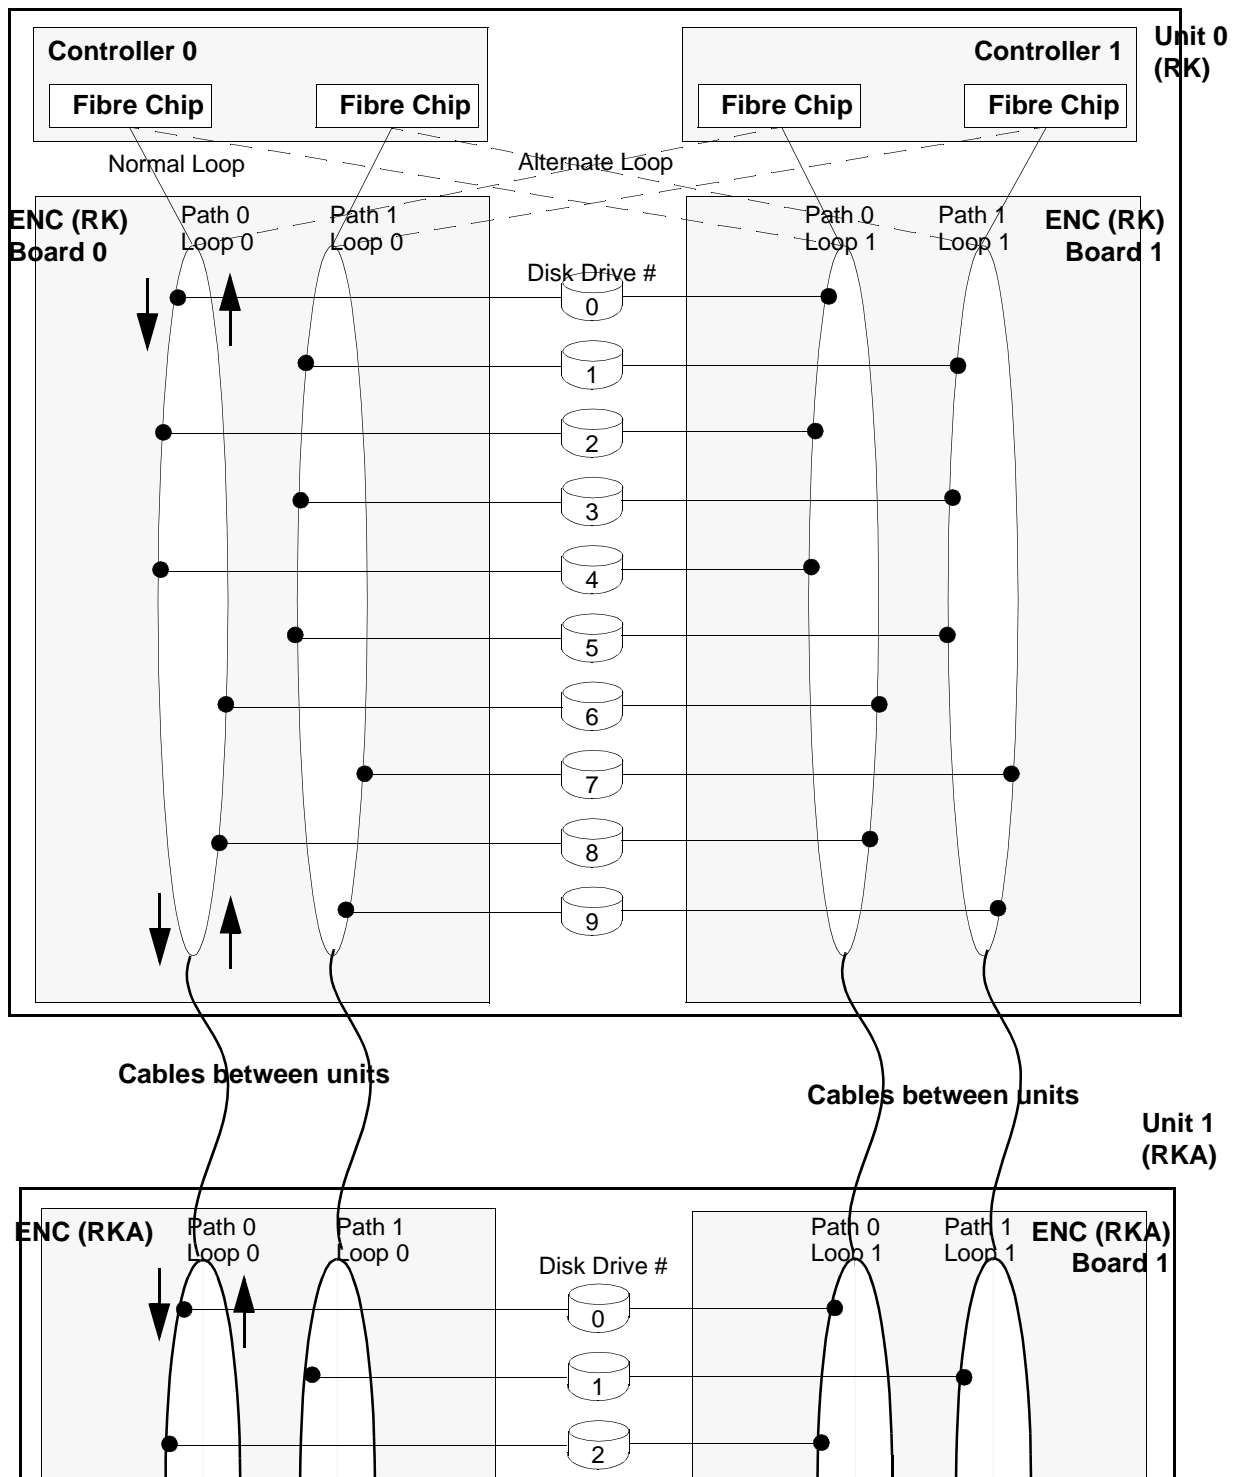

Figure 7-1.
A single DF500 controller connects up to 100 hard disk drive units, in configurations similar to that shown in Figure 7-1. Each controller connects to four (4) Fibre Channel loops. Usually, the controller accesses a disk by two loops, the “normal” loops. The other two “alternate” loops can be used if a fault occurs in the normal loops. The normal loop for controller 0 is an alternate loop for controller 1, while the normal loop for controller 1 is an alternate loop for controller 0.